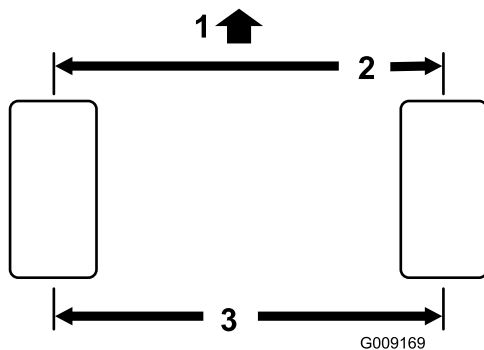

Figure 49
1. Measure the center-to-center distance (at axle height) at the front and rear of the steering tires. The front measurement must be 3 mm (1/8 inch) less than the rear measurement (Figure 49).